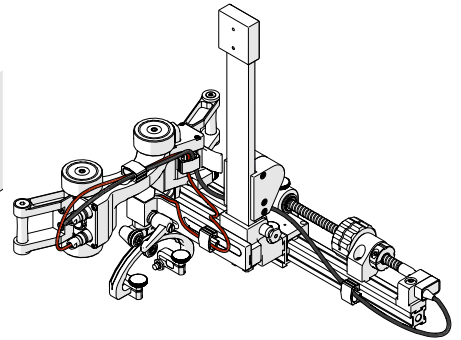

Fig. 88 - Assemble configuration
2. Assemble the appropriate configuration to the low profile link (Fig. 88). Install the wedge and probe to be used (see *Probe Holder Setup* on page 22).